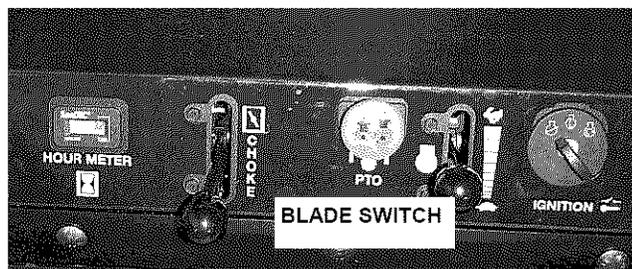

FIGURE 3.2
3. Push blade switch in to "OFF", blades disengaged position and engage parking brake. See Figures 3.2 and 3.7.